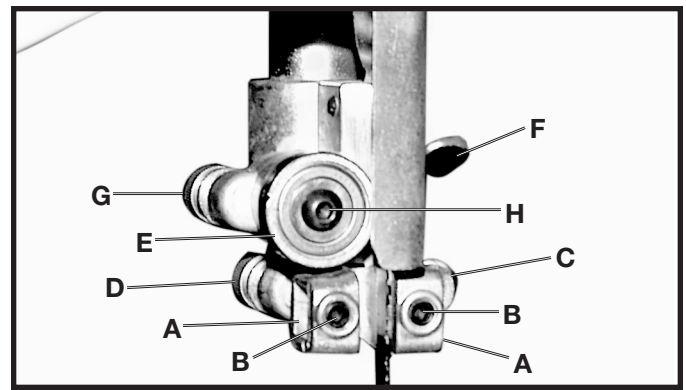

Fig. 55
4. Adjust the guides (A) Fig. 55 so that the front edge of the guides are just behind the "gullets" of the saw teeth. The complete guide block bracket can be moved in or out by loosening the thumb screw (C) and turning the knurled knob (D) Fig. 55. When the guides (A) are set properly, tighten thumb screw (C).
5. Two set screws (B) Fig. 55 hold the upper blade guides (A) in place. Loosen the set screws (B) to move the guides (A). Place them as close as possible to the side of the blade. (Be careful not to pinch the blade). Tighten the screws (B).
6. When the blade guide wears to a point that it cannot be adjusted close to the blade, loosen screw (B) Fig. 55 and reverse the blade guides (A) Fig. 55.
7. The upper blade support bearing (E) Fig. 55 prevents damage to the set in the saw teeth by keeping the blade from being pushed too far toward the back. The support bearing (E) should be set  $1/64$ " behind the blade by loosening the thumb screw (F) and turning the knurled knob (G) to move the support bearing (E) in or out.
8. Adjust the blade support bearing (E) so that the back edge of the blade overlaps the outside diameter of the ball bearing by about  $1/16$ ". The bearing (E) is set on an eccentric. To change the position, remove the screw (H) and bearing (E) Fig. 55. Loosen the thumb screw (F), back out the knurled knob from the set screw. Remove the hex shaft from the hole, and rotate it to move the eccentric for the bearing.